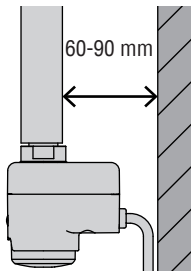

Fig. 2
- The Towel rail has to be mounted parallel to the wall using the brackets recommended by the towel rail manufacturer. The distance between product and the wall must be between 60 and 90 mm (Fig. 2). In order to avoid a hazard for younger children, the electrical towel rail should be installed so that its bottom part is at least 600mm above the floor according to EN 60335-2-43/A1.